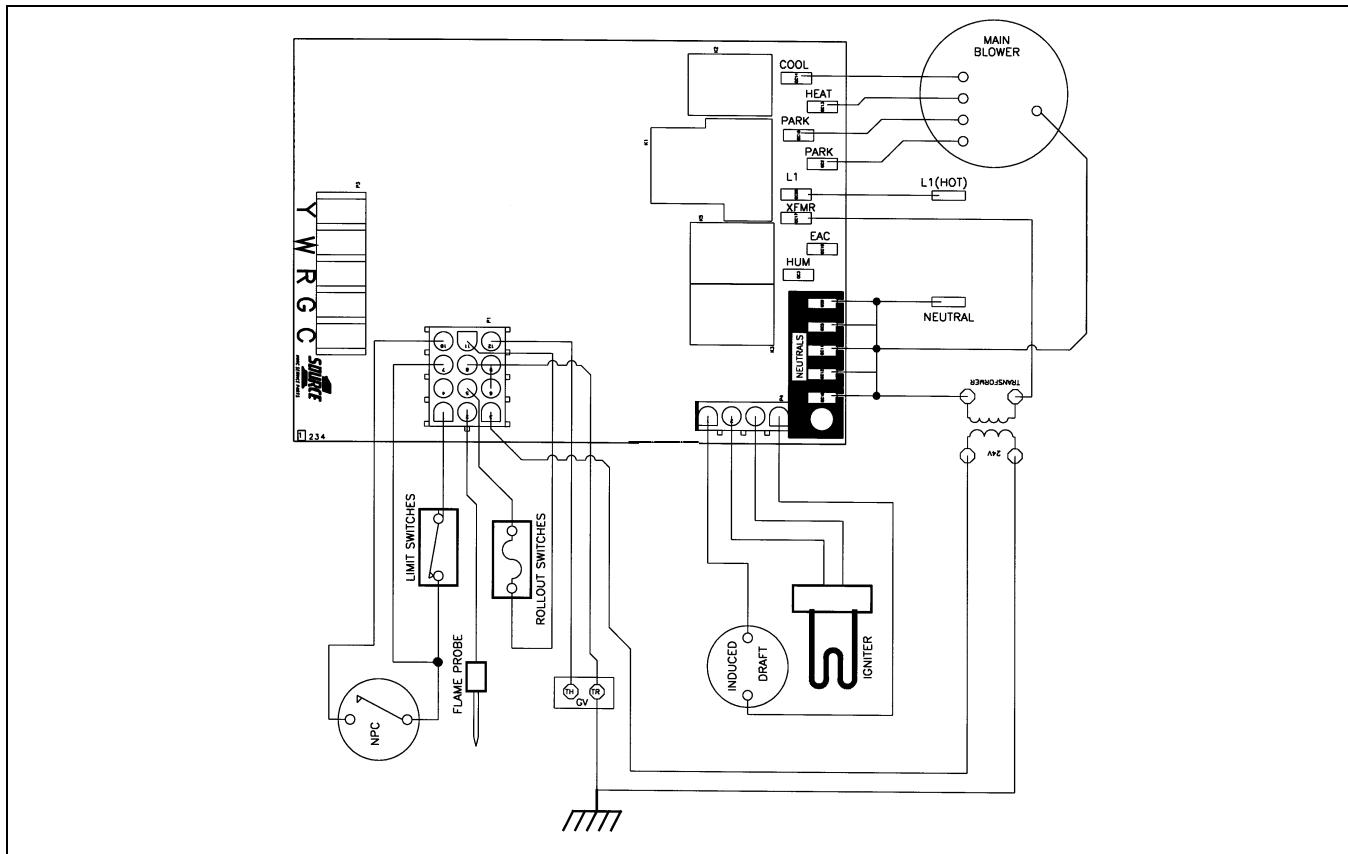

FIGURE 1: BOARD LAYOUT
Ignition control P/N 031-01933-000 is a direct replacement for part numbers 031-01267-000, 031-01267-001, 031-00662-000 (50A50-209), 031-01250-000 (50A50-230), 031-01266-000 (50A50-241), and 031-01284-000 (50A55-241). FIGURE 1 shows the basic board layout with general component and safety circuit connections (Refer to the electrical wire diagram for the furnace being serviced for circuit connections specific to that model.)
1. Connect all wires according to the electrical wire diagram. Refer to FIGURE 1 for the locations of the terminals to be connected.